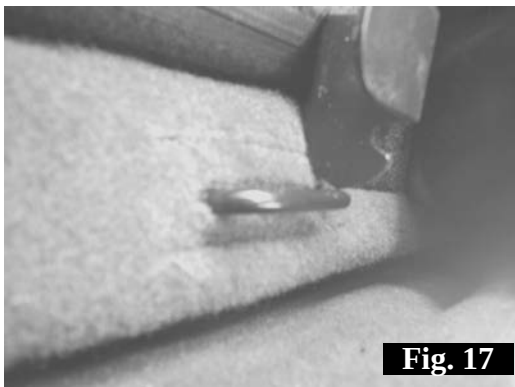

Fig. 17
29. Align the mounting bracket with the anchor points at the bottom of the seat and press the enclosure down until it locks into place. Fig. 17